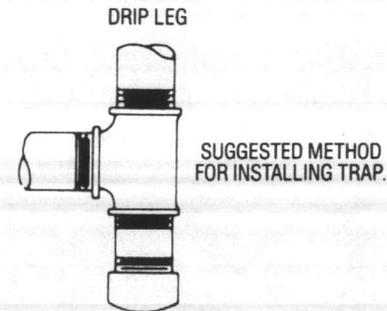

Figure 5
- a. **GAS CONNECTIONS:** (See Figures 5 & 7)